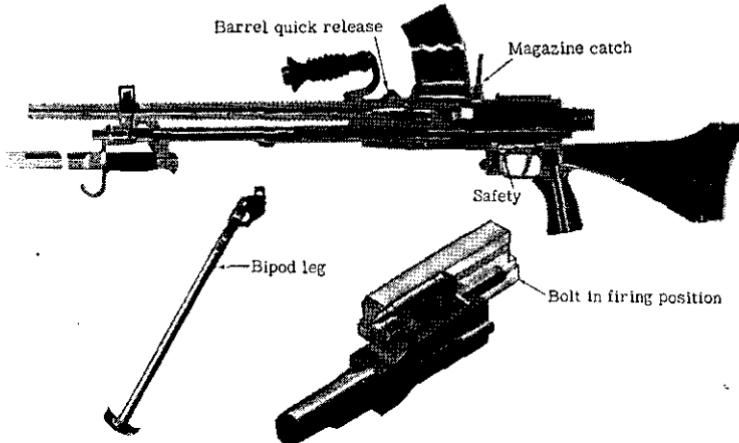

Figure 62.—Diagrammatic cross section of Model 96 (1936) 6.5-mm light machine gun, showing also various parts.
(1) *Safety*.—The safety (fig. 62) is located on the left side of the trigger housing in front of and above the trigger. In the horizontal position it is set to "fire"; in the vertical position, to "safe." At "safe" the trigger mechanism is locked by the surface of the pin preventing movement of the trigger. At "fire" the cutaway portion of the pin allows the sear to move.